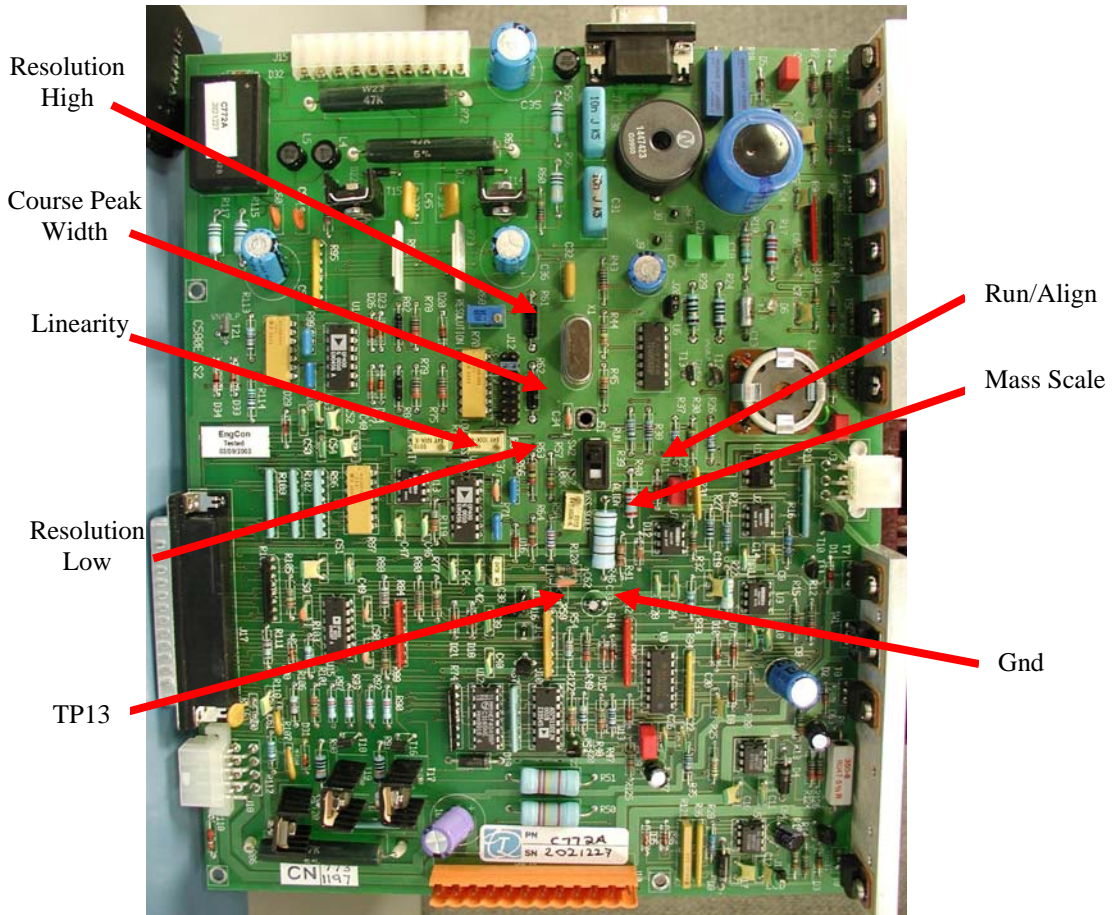

Figure 3 (Analog PCB)
- 4.2.5 Using microprobes connect '+' to TP13 and 'Gnd' to ground TP right of TP 13. (See Figure 3)